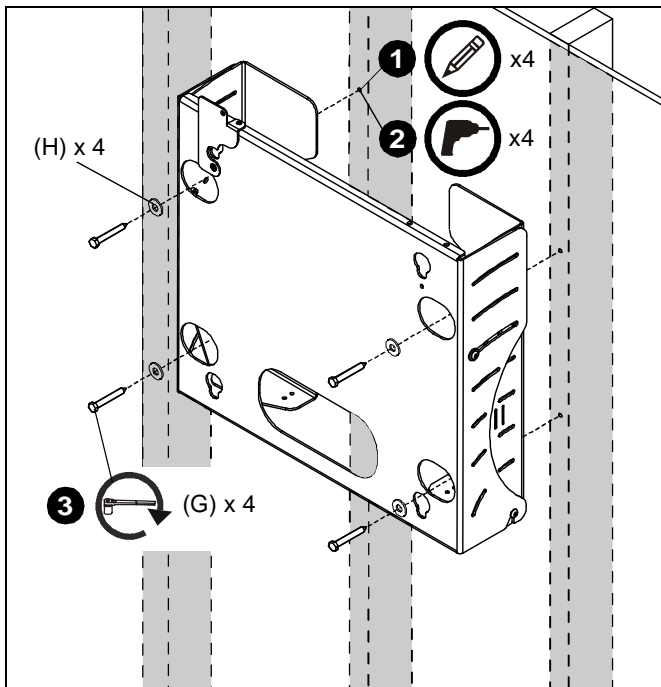

Figure 1
1. Level mount (A) at desired height. Using mount (A) as a template, mark locations of four pilot holes (See Figure 1). Ensure marks are in the center of wood studs.
2. Drill 7/32" (5.5mm) diameter pilot holes into wood studs (See Figure 1). Ensure pilot holes are straight.
3. Using 1/2" (12.7mm) socket wrench, install four 5/16" x 2-1/2" (7.9mm x 63.5mm) hex head lag screws (G) and four 5/16" flat washers (H) through front plate access holes and rear mounting slots, into pilot holes (See Figure 1). Securely tighten lag screws.